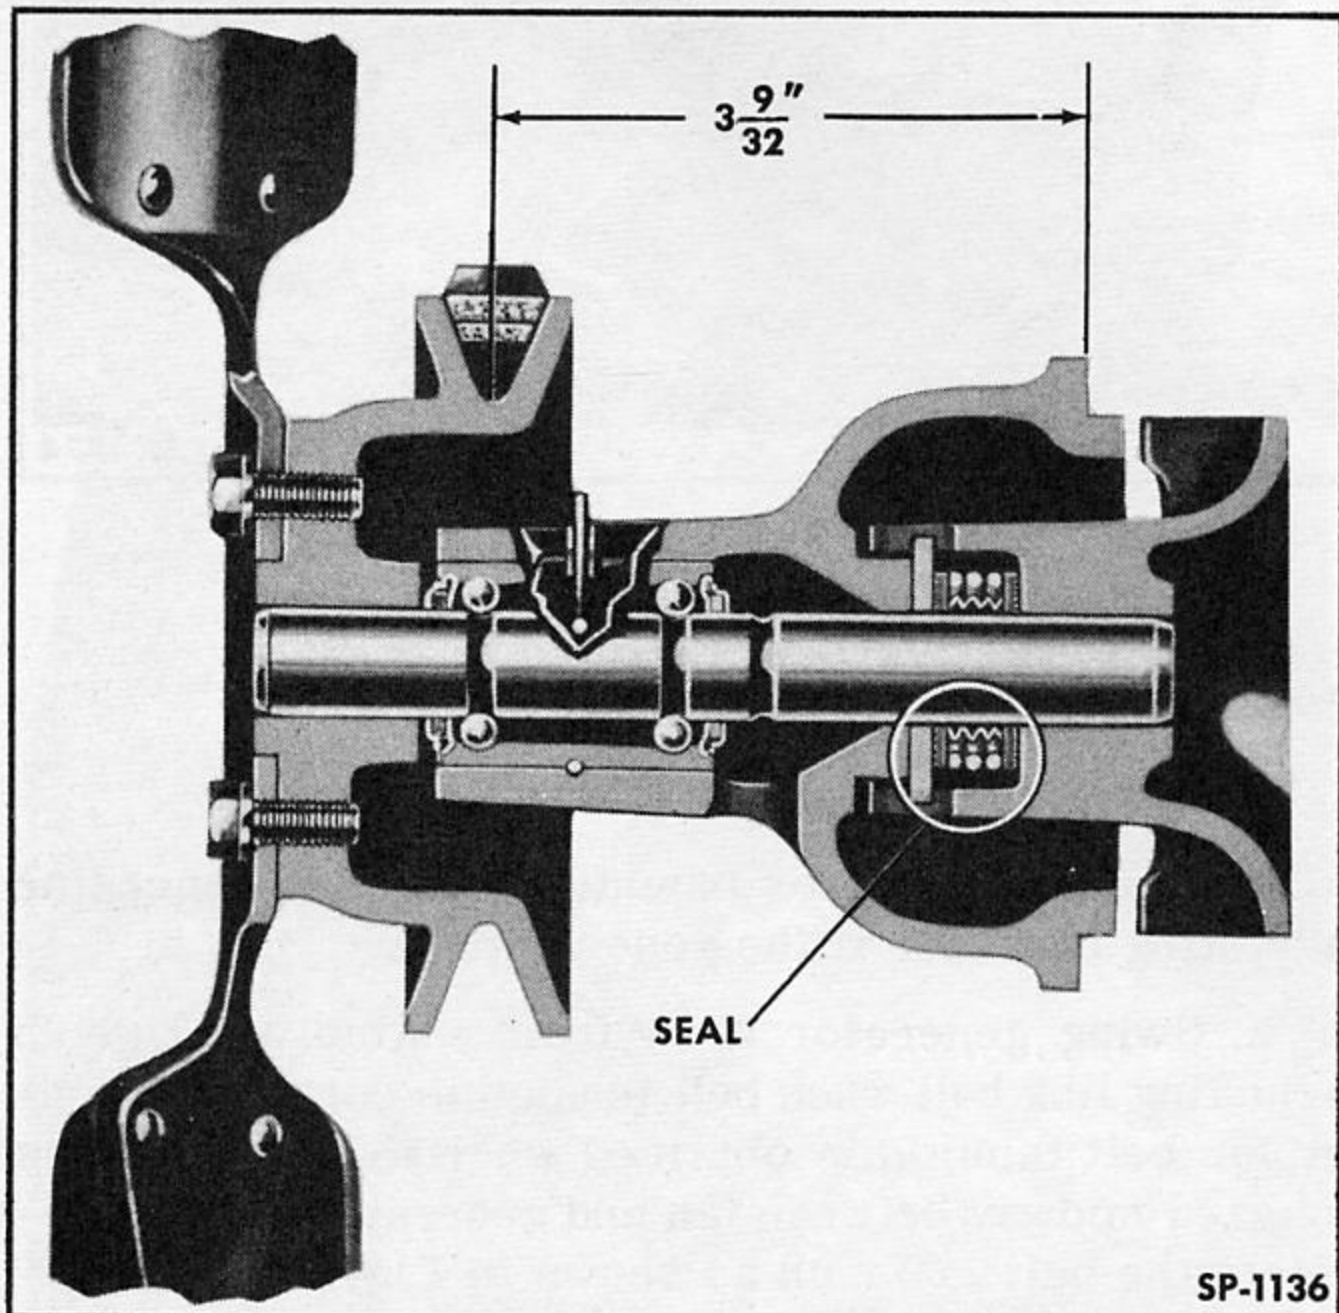
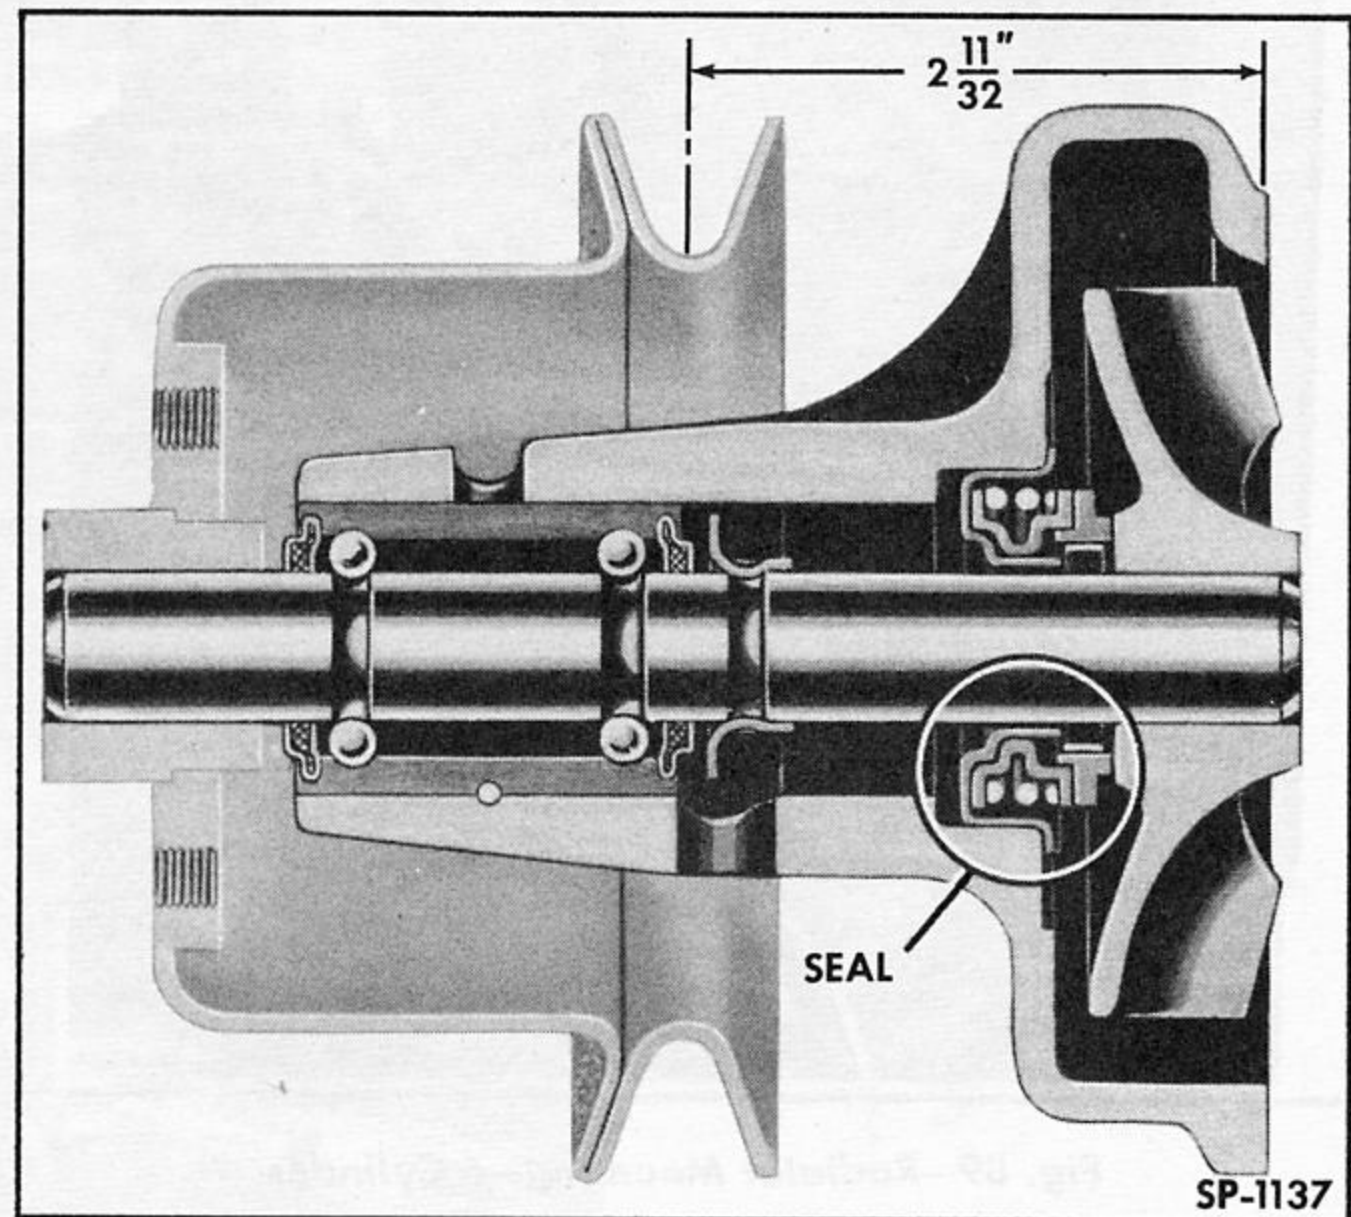

Fig. 93—Water Pump—4 Cylinder—Sectional View
Fig. 94—Water Pump—6 Cylinder—Sectional View
The essential difference between the two pumps is the seal. The pump on the four cylinder engine (Fig. 93) uses a carbon washer and a seal spring assembly installed in the hub of the impeller. They revolve with the impeller and seal against the pump body. The pump seal on the six cylinder engines is a self-contained unit pressed into the pump body. The carbon sealing washer is held against the finished face of the impeller hub (see Fig. 94).
4. Press pulley and hub assembly onto shaft until center of pulley V-groove is 3-9/32 inch from mounting face of pump body (see Fig. 93).
4. Hold pulley firmly in position on pulley hub and press hub onto shaft until center of pulley V-groove is 2-11/32 inch from mounting face of pump body (see Fig. 94).